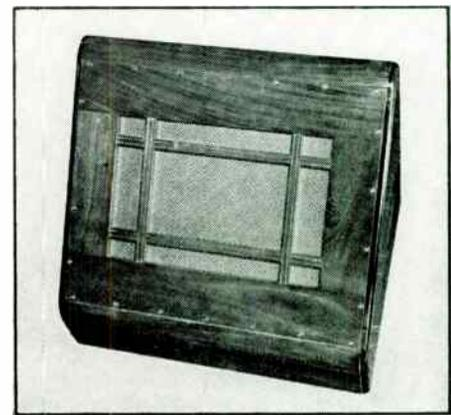

FIG. 7. WALL-MOUNTED CORNER CABINET
3. The corner, or wall mounted cabinet, is triangular in shape, as shown in Fig. 7. It is intended for small studios where it is desirable to hang the speaker in a corner or on the wall. Its volume is $5\frac{1}{2}$ cu. ft. and the port is adjusted to radiate down to 65 cycles.